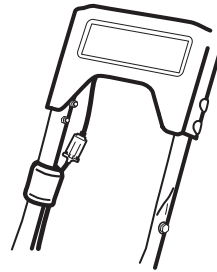
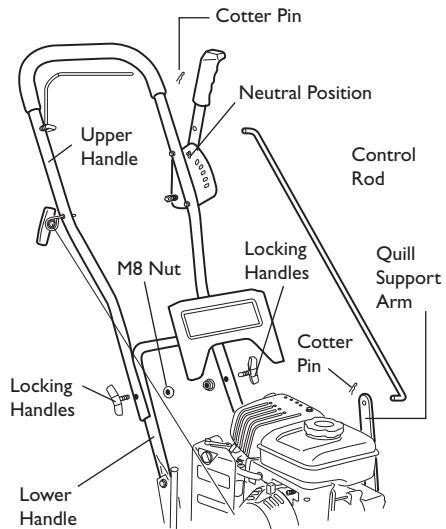

Figure 4
Figure 5
3. Connect the wires using the plastic connectors fitted. Secure wires with handle clips provided. (See Figure 4)
4. Use the (2) cable ties to secure the loose cable coming from the start lever to the handle. Use (1) cable tie on the right side of the upper handle and (1) cable tie on the left side of the lower handle. Make sure cable goes behind handle panel.
5. Slide one end of the control rod from left to right through the hole in the clutch lever. Secure with the cotter pin. (See Figure 5)
6. Move the clutch lever to the first depth position. Attach the other end of the control rod to the quill support arm with the cotter pin. (See Figure 5)
NOTE: If it is difficult to move the clutch lever to the "N" NEUTRAL position, loosen the fasteners that hold the lower handle to the edger frame (See Figure 5). Raise the handle until the clutch lever will easily move to the "N" NEUTRAL position. Tighten the fasteners.